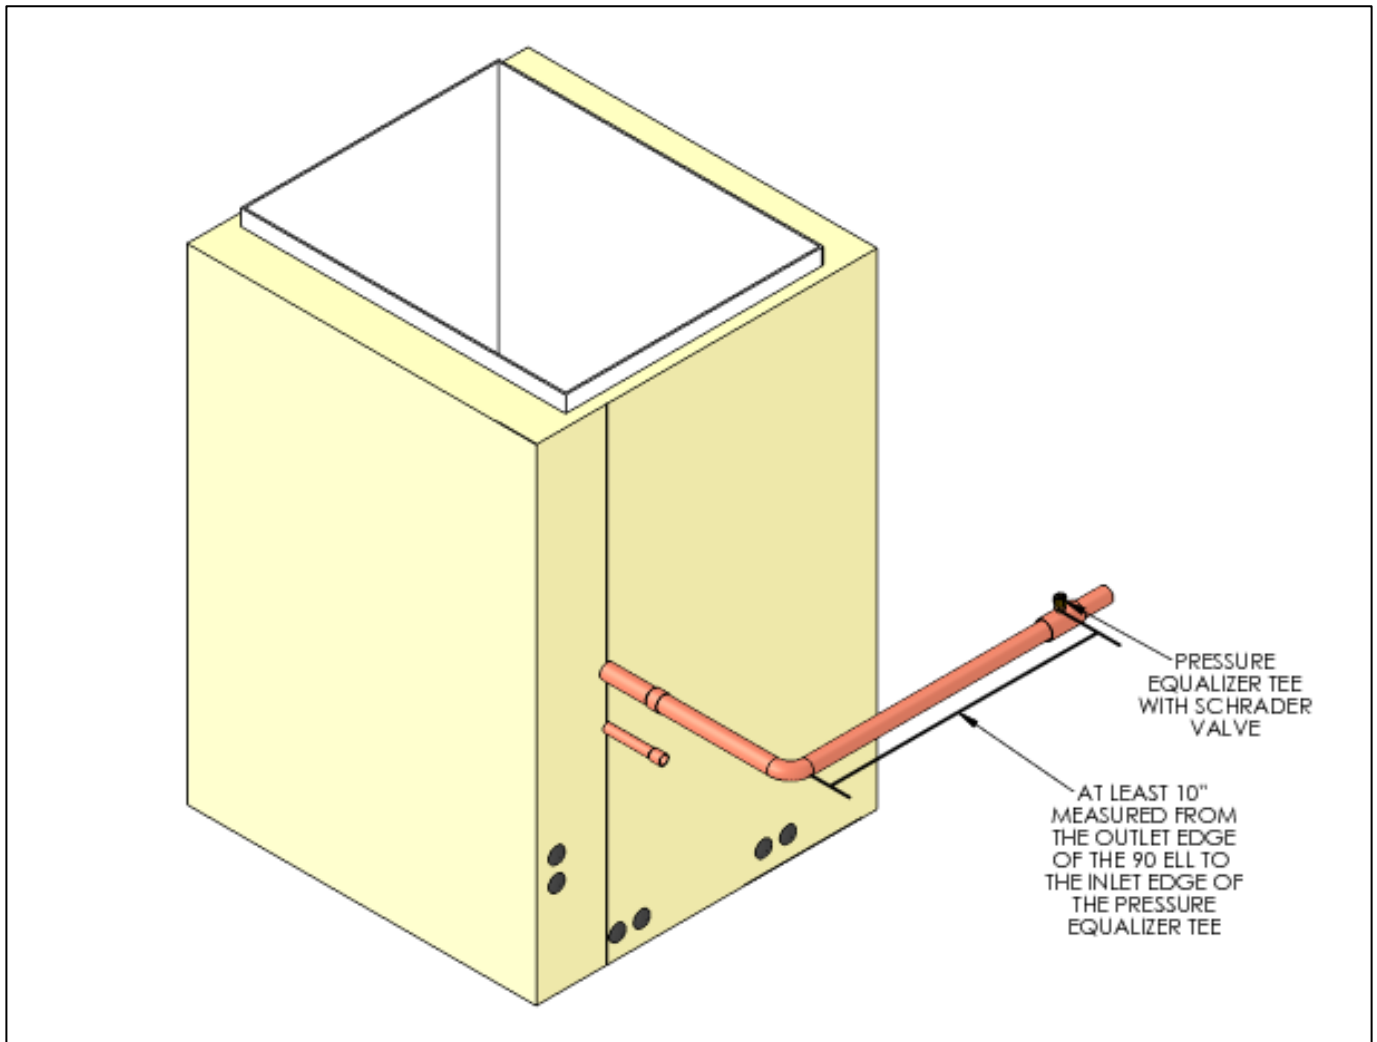

Figure 9. Positioning the Pressure Equalizer Tee
Step 2: Position the Pressure Equalizer Tee on the suction tube at least 10 inches downstream from the 90° ell as shown in Figure 9. Remove the core from Schrader valve on the Tee.